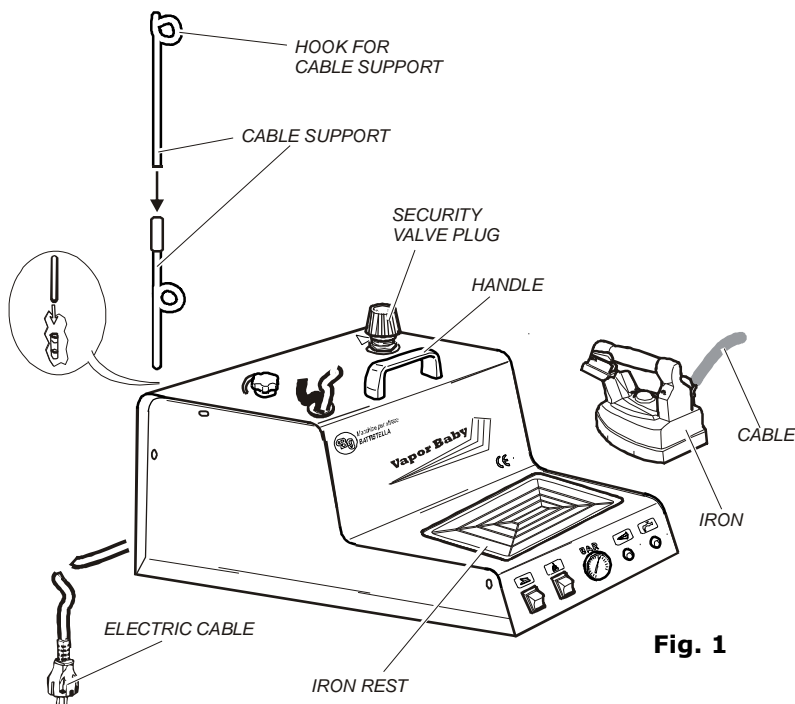
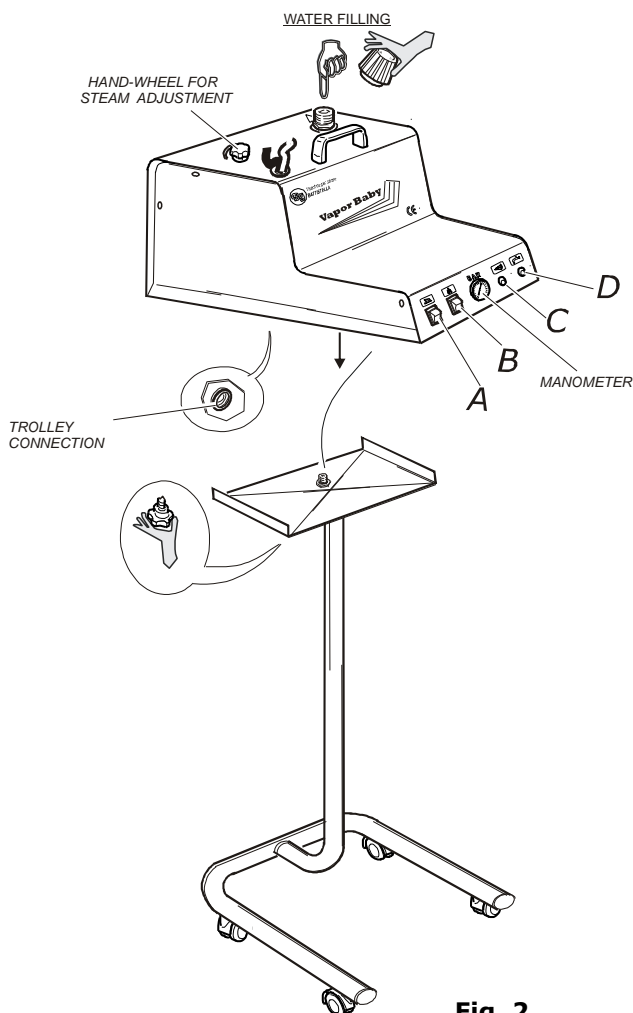
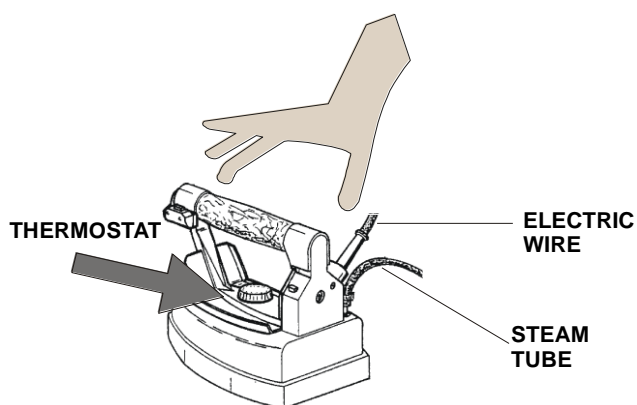
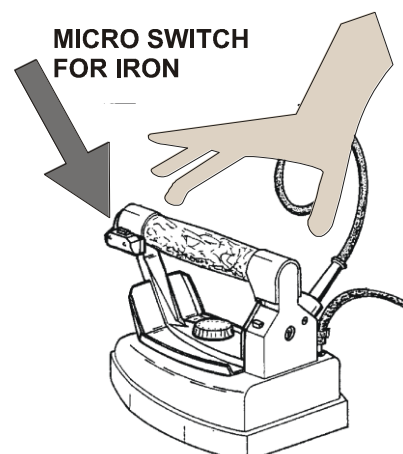

Fig. 1
Fig. 2
Fig. 3
Fig. 4
2. Remove VAPORBABY from the box, mount the two pieces of the cable support and insert it deep into the special support holder (fig. 1) placed on the back side of the generator.
4. Put the iron on its rubber iron rest (fig. 1).
5. For VAPORBABY supplied with trolley: screw the trolley knob on the proper connection under the base of the machine (fig. 2).
1. Unscrew the security valve plug (fig. 1), fill the boiler with water (fig. 2) till overflow or at pleasure (we advise you to use a funnel). Take the plug by the plastic part and screw it again: do not tighten too much or its gasket might get spoilt. **N.B.** during the filling do not let water to wash the machine outside; whether it happens, dry it immediately in order to avoid the risk of electrical discharges.
3. Switch on the boiler (fig. 2 B), the iron (fig. 2 A) and adjust the thermostat (fig. 3) on "cotton" (**N.B.** the thermostat of Tulipano irons must be set between "wool" and "cotton").
4. Wait for the boiler lamp to switch off (fig. 2 C), the manometer should mark 2,5/3 BAR. At this point seize the iron by cork handle and press red button 3 or 4 times (fig. 4), so that steam comes out: this operation must be carried out in order to heat up the tubes which take steam to iron. In this way you prevent also the falling of small drops of water on garments (iron must always be held in such a way as not to harm operator, that is with iron always pointed downwards). To adjust steam flux, you must work on the hand-wheel for steam adjustment (fig. 2). During ironing operation, the boiler lamp switches on and off (fig. 2 C).
4. **Never replace the security valve plug (fig. 1) with other types of plug. N.B. the security valve plug is set on 4,5 BAR and it has the function of a security valve.**
1. Run the iron on garments, pressing the iron microswitch (fig. 4) for steam. For a better result, set the thermostat (fig. 3) on "cotton" (between "wool" and "cotton" for iron mod. Tulipano).
3. During ironing operation, always put the iron on its rubber rest (fig. 1) and pay attention to the position
4. For dry ironing it is possible to adjust the thermostat (fig. 3) on different positions according to the type of fabric (look at garment label).
5. If you work on a non-vacuum board, some circular water spots might form because of condensed steam. To get round this problem, put a felt under the usual padding and adjust the hand-wheel for steam regulation on minimum (fig. 2).
When there is no more water, the lamp "missing water" (fig. 2: D) switches on. So VAPORBABY has to be switched off by disconnecting plug; rotate the valve plug (fig. 1) of 360° and wait for steam to come out completely (the manometer has to indicate 0 BAR). Unscrew the valve plug with care and wait some minutes. Then fill the boiler with water till overflow or at pleasure (see point 4.1). Screw the valve plug again, switch the machine on and wait for the boiler lamp to switch off (fig. 2: C). Now the iron is ready again. **ATTENTION:** VAPORBABY must always be on horizontal position.
3. Replace the security valve plug every 2500 hrs. of lighting or maximum 3 years (fig. 1). For carrying out this operation, the machine has to be switched off and cold.
3. steam tube and iron cable once they seem spoilt (fig. 3).